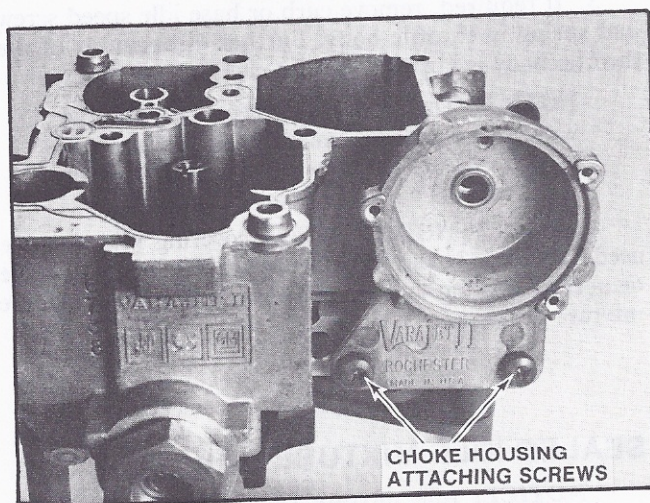

FIGURE 30 CHOKE HOUSING SCREWS
5. Remove choke housing by removing two (2) attaching screws in throttle body (Figure 30).
5. Install choke housing on throttle body, making sure raised boss and locating lug on rear of housing fit into recesses in float bowl casting (Figure 30). Install two (2) choke housing attaching screws and lockwashers in throttle body and tighten screws evenly and securely.